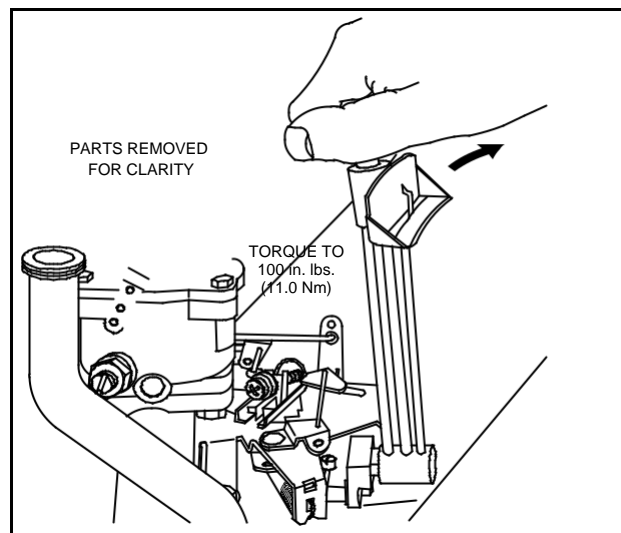

Fig. 45 – Static Governor Adjustment
2. Rotate governor shaft counter-clockwise as far it will go, Fig. 45.